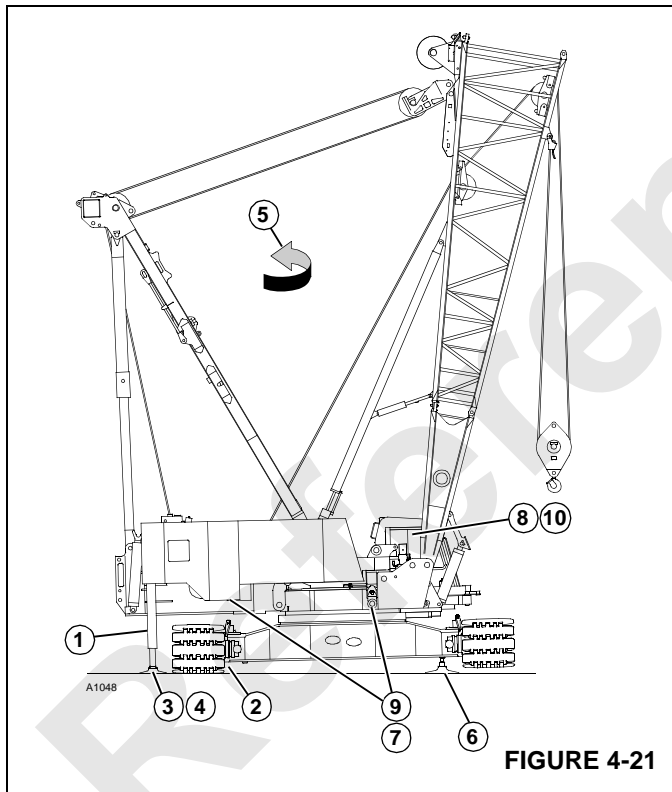

FIGURE 4-21
- c. Swing so rear of rotating bed is positioned over 1st crawler (Figure 4-21).
NOTE: Circled numbers in Figure 4-21 correspond to numbered procedure steps.
3. Retract rear jacks until crawler is on ground (Figure 4-21).